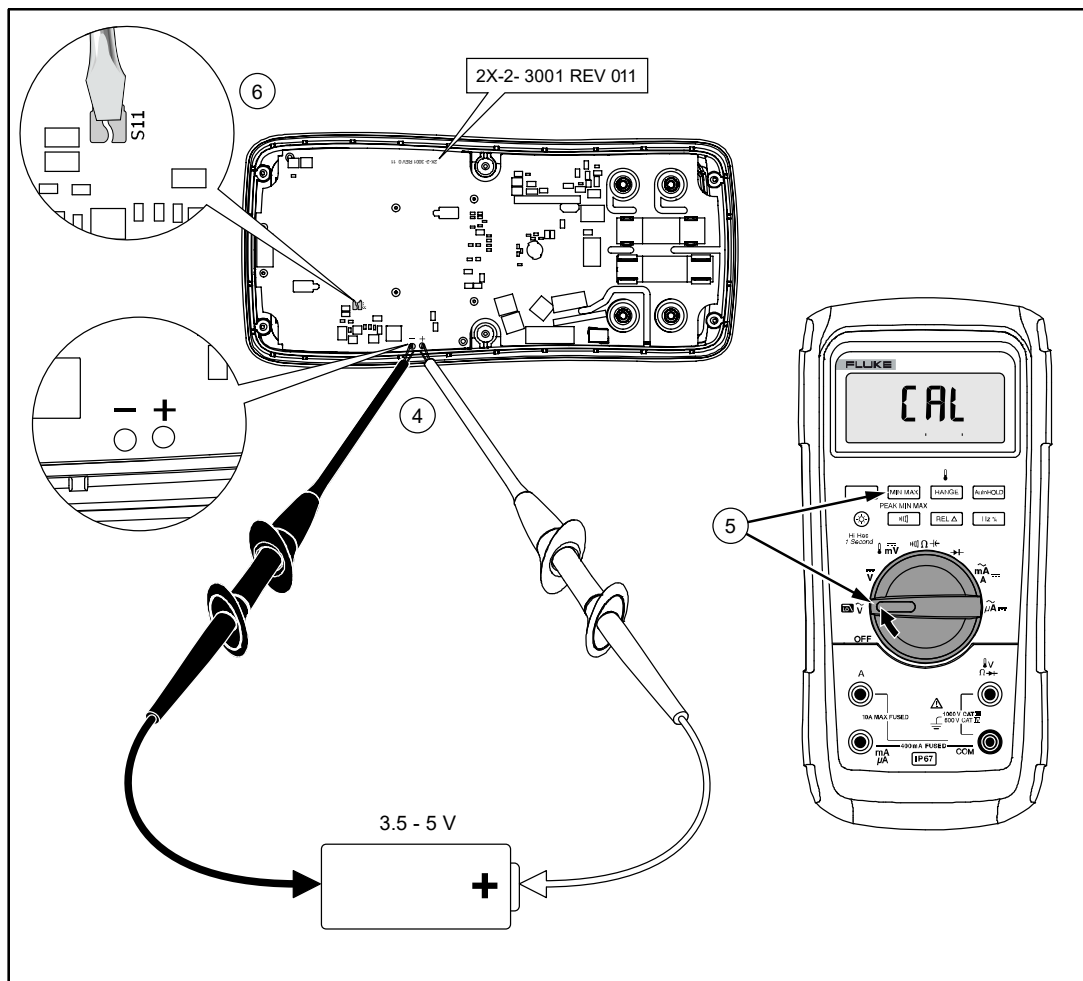

Figure 4. Revision 011 Board Layout
4. Apply power to the PCB by clipping on a dc voltage between 3.5 V and 5 V at the test points marked “+” and “-” at the edge of the board. See Figure 4.
6. Short across keypad button S11 on the back of the PCB. See Figure 4. The Meter should beep.